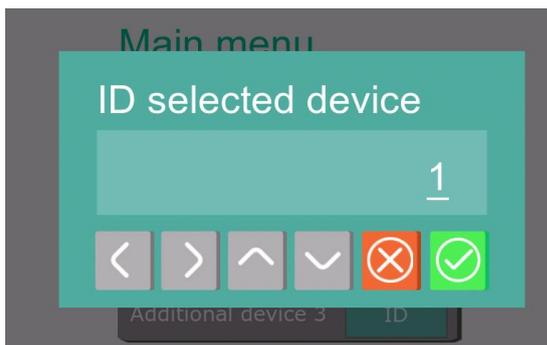
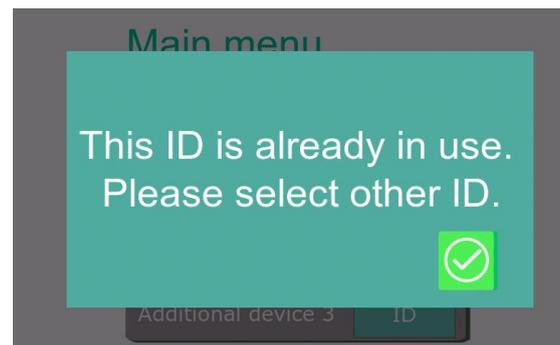

Figure 10 – CAN ID menu
Figure 11 – CAN ID menu
5. Enter the ID of the connected control board (fig. 10). Use the left and right arrows to select the digit to change, use the up and down arrows to change the value. Press button to save the changes and exit menu. Press button to exit menu without changes. If the entered CAN ID is already used on another additional device, an error message will appear Fig. 11.